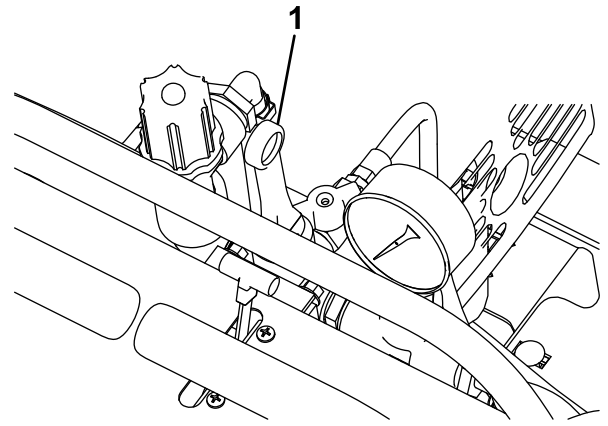

Figure 19
3. Open the sprayer valve to begin spraying (Figure 19).